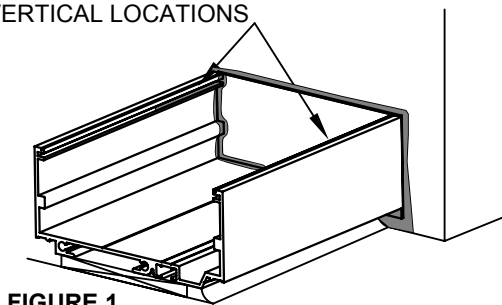

FIGURE 1
- STEP A:** Install Head and Sill receptors level and true in opening. The sill receptor should be shimmed up a minimum of 1/4" as required at each fastener and under the location of each mullion to level receptor. Seal the ends of the Head and Sill receptor and seal over all fasteners at sill. Seal end dam to perimeter condition. (Figure 1)
- STEP B:** Starting at one end of the opening, apply bead of sealant along front and rear of top and bottom jamb locations. (Figure 1)